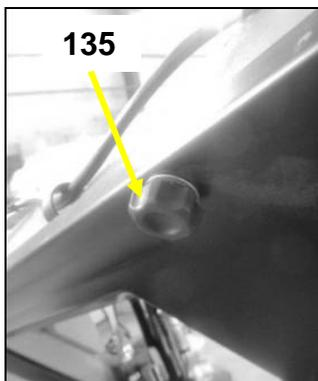

Fig 27
- Close the flywheel safety guard and secure it with the special clamps (135 Fig 27).